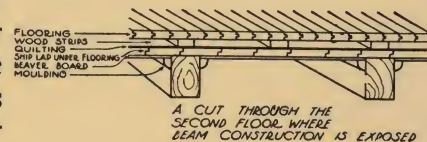

Figure 15
**A**ND what about the floors? Discussion of the floors follows that about finish, because in the builder's working schedule, this is the order which should be followed. Why have your finished floors trod upon for days by rough-shod workmen, when installation can be made after all other work, except the placing of fixtures and interior decorating, has been done? It should be remembered that, in most cases, under-flooring will have been installed giving the workmen plenty of opportunity to work without imposing on the finished floor. In laying the under-floor (Fig. 15), it is wise to consider in what